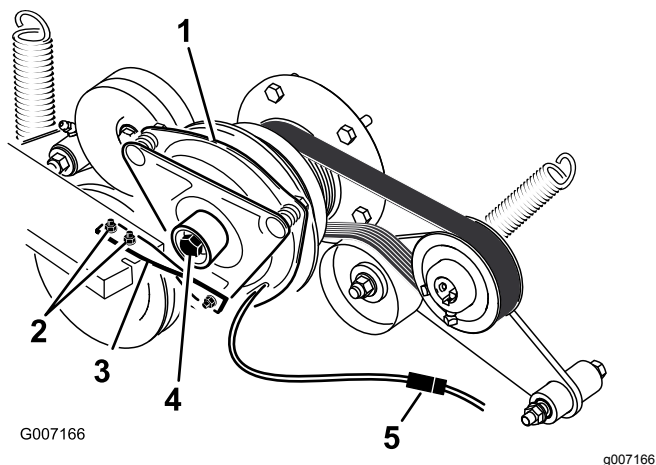

Figure 76
6. Unplug the electric connection for the clutch (Figure 76).
7. Remove the 2 bolts holding the rubber clutch strap to the mower frame (Figure 76).
8. Remove the center bolt holding the clutch to the engine shaft and remove the clutch and key (Figure 76).
16. Install the rubber clutch strap to the mower frame with the 2 previously removed bolts and nuts (Figure 76).
18. Plug in the electric connection for the clutch (Figure 76).
15. While holding the crank shaft at the back of the machine, install the center bolt and torque it to 68 N·m (50 ft-lb) (Figure 76).